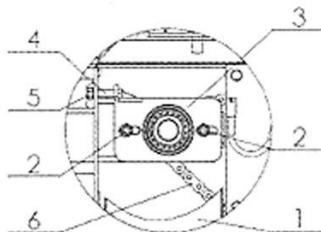

Figure 13
Tensioning is done according to the following procedure (figure 13). First, remove the protective sheet metal of the PTO shaft (pos. 1). Loosen both bolts (pos. 2) on the drive housing (pos. 3). Then tighten the nut (pos. 5). Tighten the nut so long that the drive chain is properly tensioned. Check this by hand – the chain must have a minimum oscillation. Tighten both bolts (pos. 2) and replace the protective sheet metal of the PTO shaft with bolts (pos. 1).
Before lubrication remove protection of PTO shaft (pos. 1, figure 13) and lubricate this spot. Remove the chain before lubrication. After finishing lubrication, replace the protective sheet.